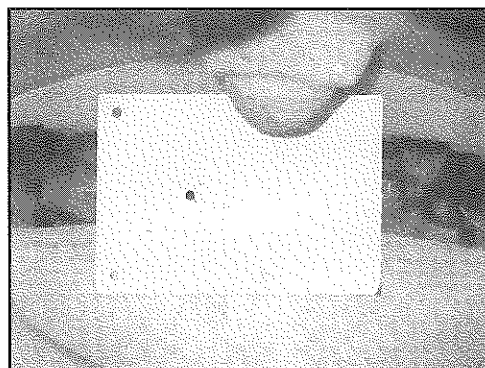

Figure 4. Jig in place for drilling
- Remove the jig from the bulkhead, and check that the pump screws slide in place in the bulkhead. (Figure 4.)